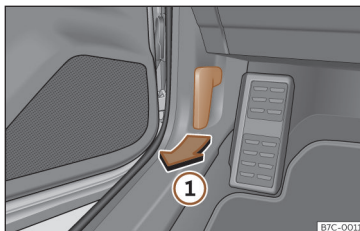

Fig. 191 Release lever in the driver's footwell area.
- Open the door and pull the lever that is underneath the instrument panel >>> **Fig. 191** ①.